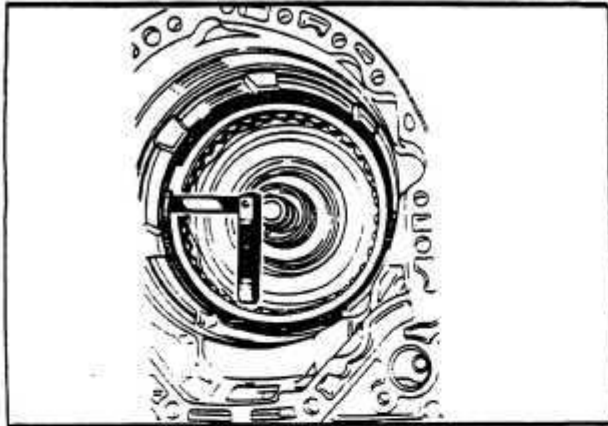

Fig. 50 BRAKE B-1 DISC PACK
13. Check the disc pack clearance using a feeler gauge. The clearance should be 1.05 – 2.85 mm (.014 – .112 in.). *Fig. 50*